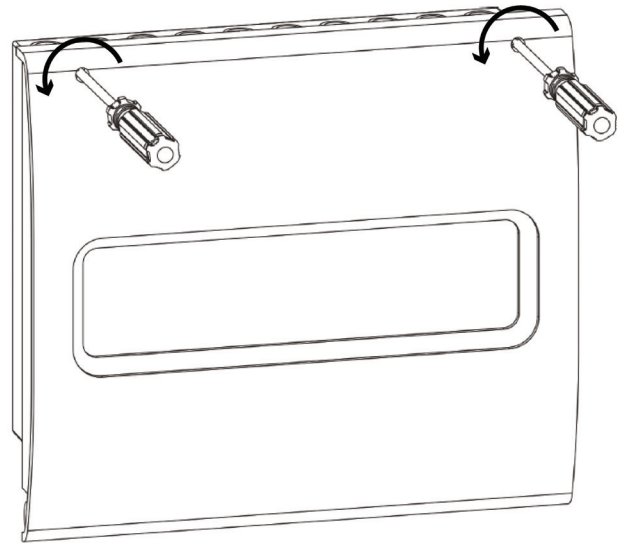

Figure 15. Remove Panel front cover
- To remove the front cover of the panel, unscrew the two retaining screws located at the top corners of the panel, see Figure 15.
- Fit the door back onto the back box by following the reverse instructions in Figure 15.